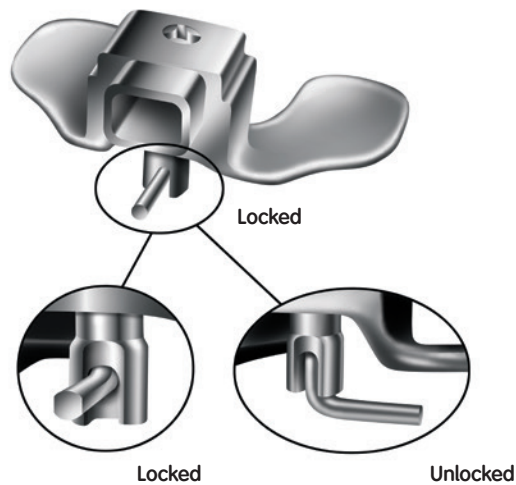

Figure 10
- 2 Unlock the capture mechanism on the modular paddles. The arm on the paddles distracts posteriorly and rotates to either side to unlock so the anterior lip can engage the slot in the posterior aspect of the valgus alignment guide. (Figure 10).